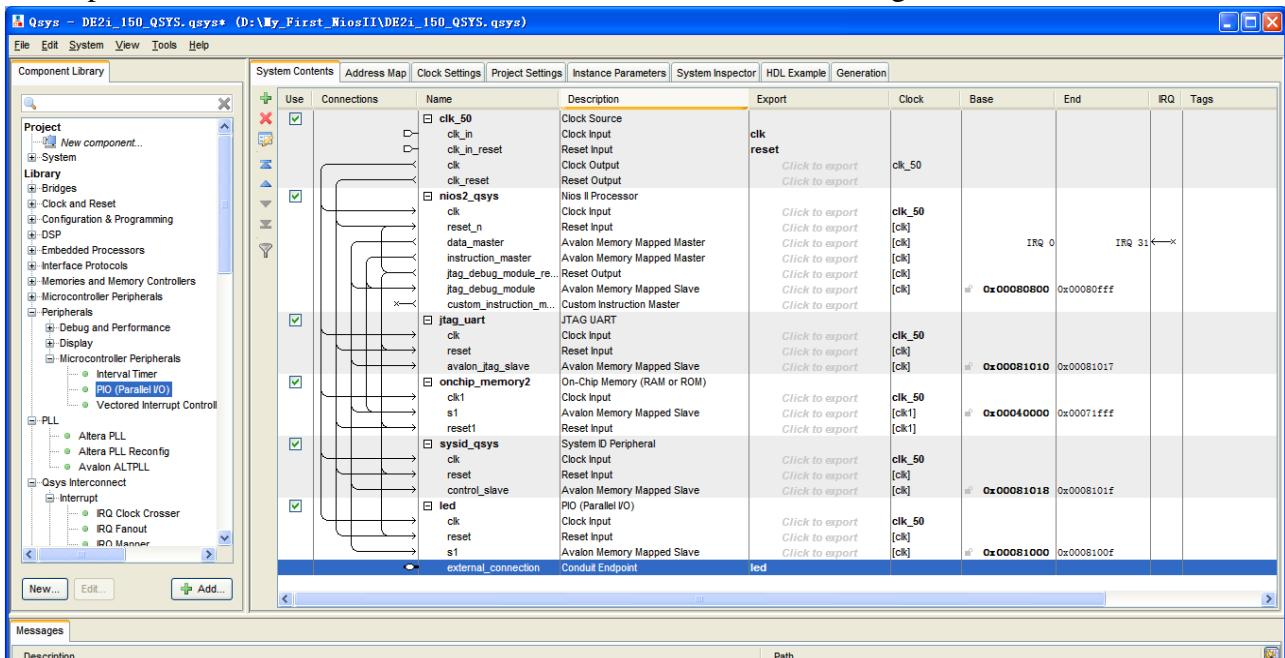

Figure 1-42 Export external\_connection
27. Export external\_connection and Rename it to led as shown in Figure 1-42.